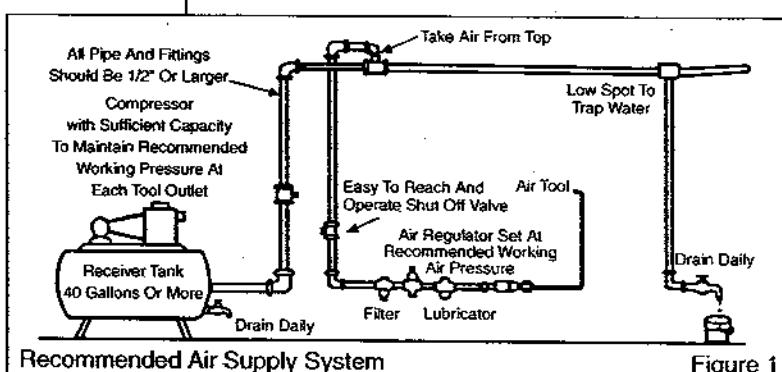

Figure 1
Use a clean lubricated air supply that will give a measured air pressure at the tool of 90 p.s.i./6.2 bar when the tool is running with the trigger fully depressed and the air regulator in its maximum opening flow position. Use recommended hose size and length. It is recommended that the tool is connected to the air supply as shown in figure 1. Do not connect a quick connect coupling directly to the tool, but use a whip or leader hose of approximately 12 inches length. Do not connect the tool to the air line system without incorporating an easy to reach and operate air shut off valve. The air supply should be lubricated. It is strongly recommended that an air filter, regulator, lubricator (FRL) is used, as shown in Figure 1, as this will supply clean, lubricated air at the correct pressure to the tool. Details of such equipment can be obtained from your supplier. If such equipment is not used, then the tool should be lubricated by shutting off the air supply to the tool, depressurizing the line by pressing the throttle lever on the tool. Disconnect the air line and pour into the hose adaptor (9) a teaspoonful (5ml) of a suitable pneumatic motor lubricating oil preferably incorporating a rust inhibitor. Reconnect tool to air supply and run tool slowly for a few seconds to allow air to circulate the oil. If tool is used frequently, lubricate on daily basis and if tool starts to slow or lose power. When lubricating, also ensure that the air strainer in hose adaptor (9) is clean. It is recommended that joint tightness of the threaded fastener assembly be checked with suitable measuring equipment. It is recommended that the air pressure at the tool while the tool is running is 90 p.s.i./6.2 bar.